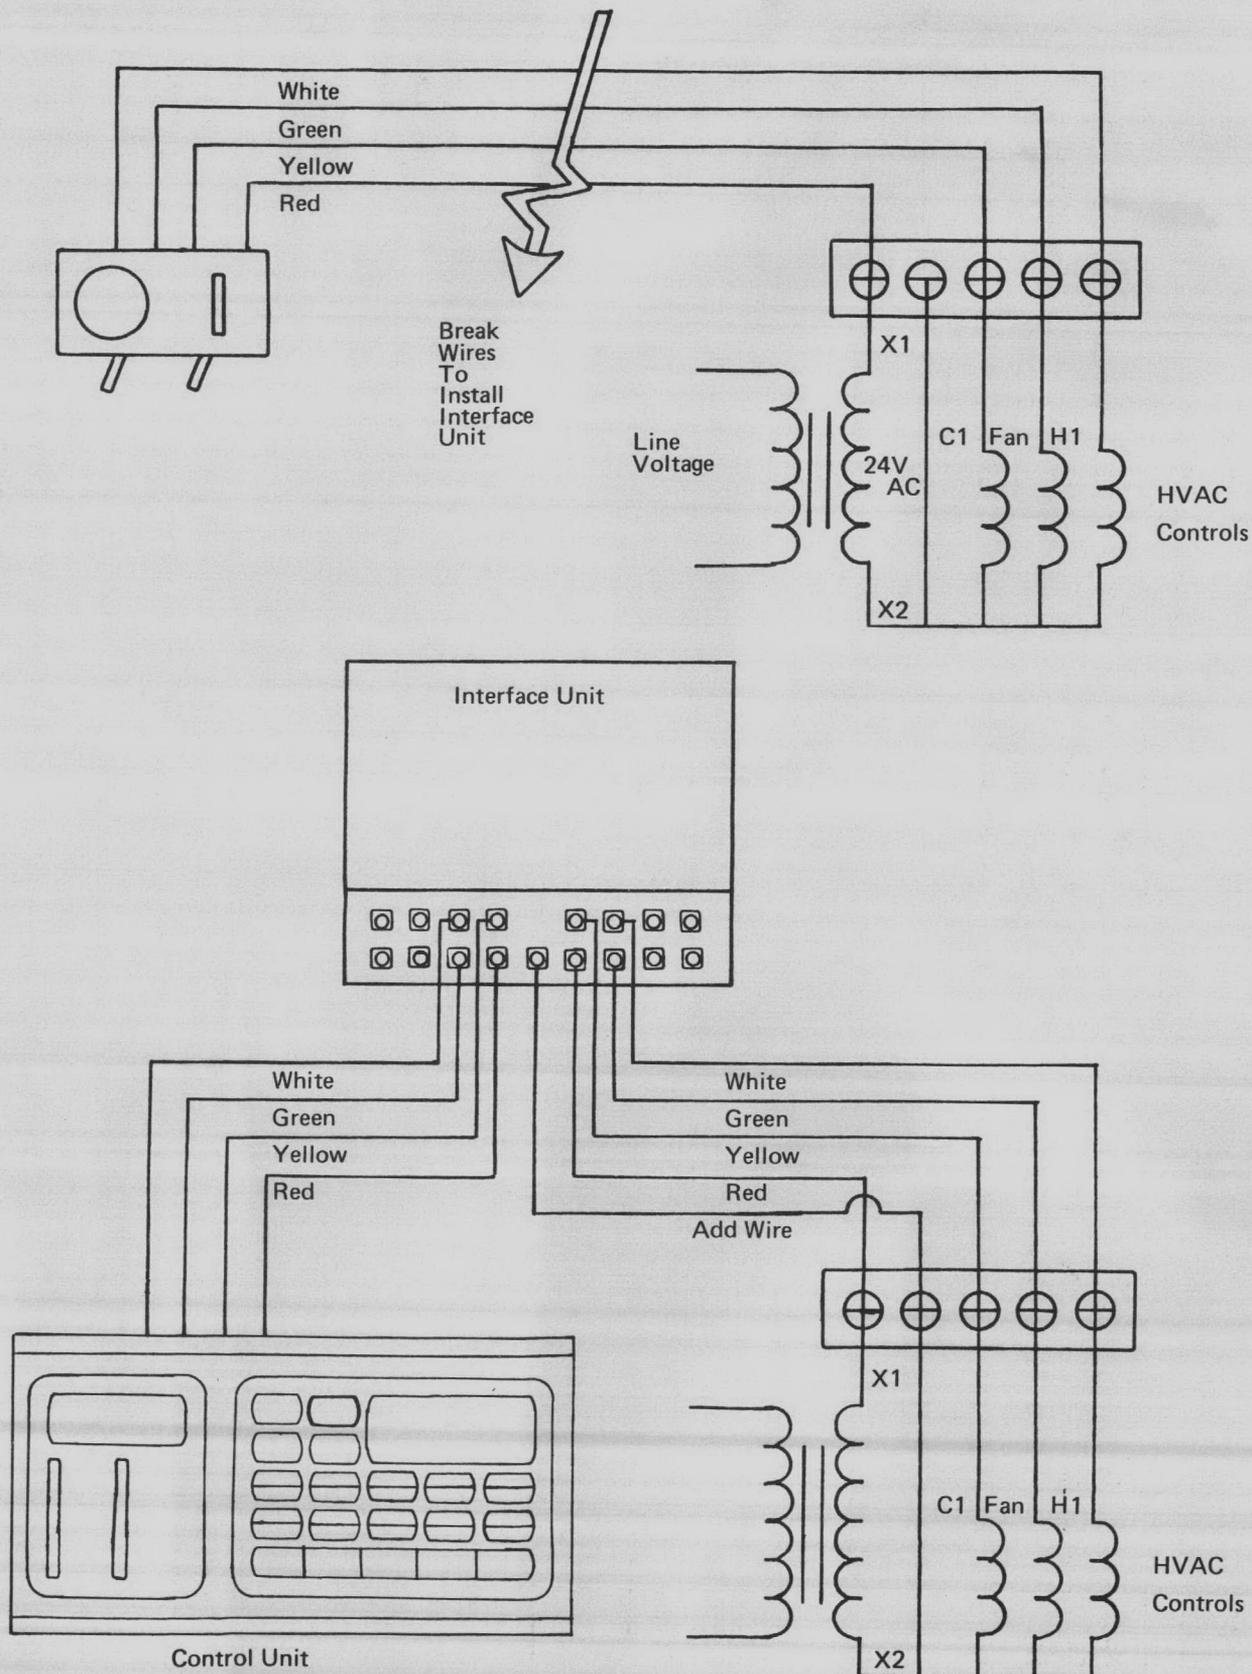

FIGURE 2.
- For HVAC Systems that provide fault or malfunction detection, connect this line (usually X, X2, or L) to FLT terminal on subbase of control unit. (See Figure 2).
- For HVAC systems that provide fault or malfunction detection, connect this line (usually X, X2, or L) to FLT terminal on subbase of control unit. (See Figure 2.)